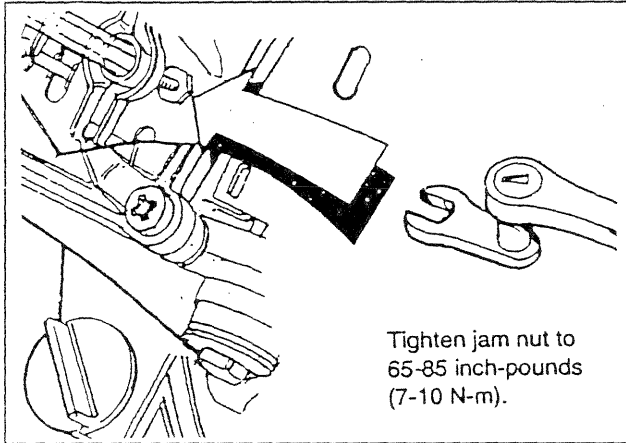

Figure 13 — Tightening Jam Nut
2. When valve clearance is correct, hold the pivot ball stud with the allen wrench and tighten the rocker arm jam nut with a crow's foot. Tighten the jam nut to 65-85 inch-pounds torque. After tightening the jam nut, recheck valve clearance to make sure it didn't change (Figure 13 on Page 15).